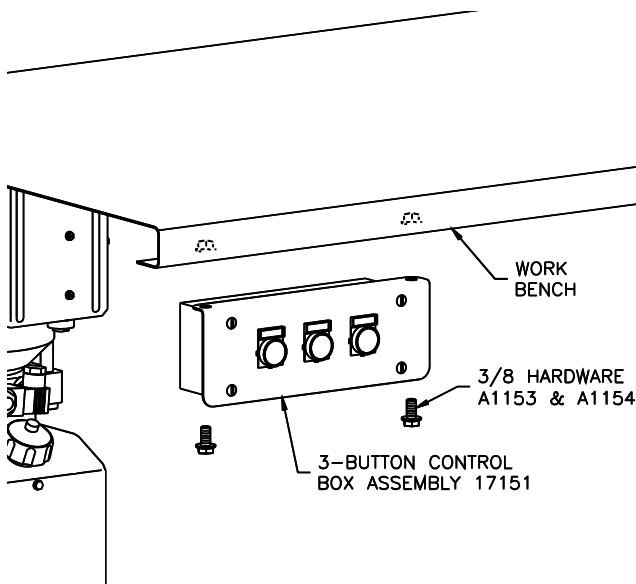

Fig 4 – Control Box Assembly Mounting
- 3) Mount the 3-Button Control Box Assembly to the leading edge of the workbench using the two (2) 3/8 x 3/4" Lg. flanged bolts and nuts provided, **Fig 4**.